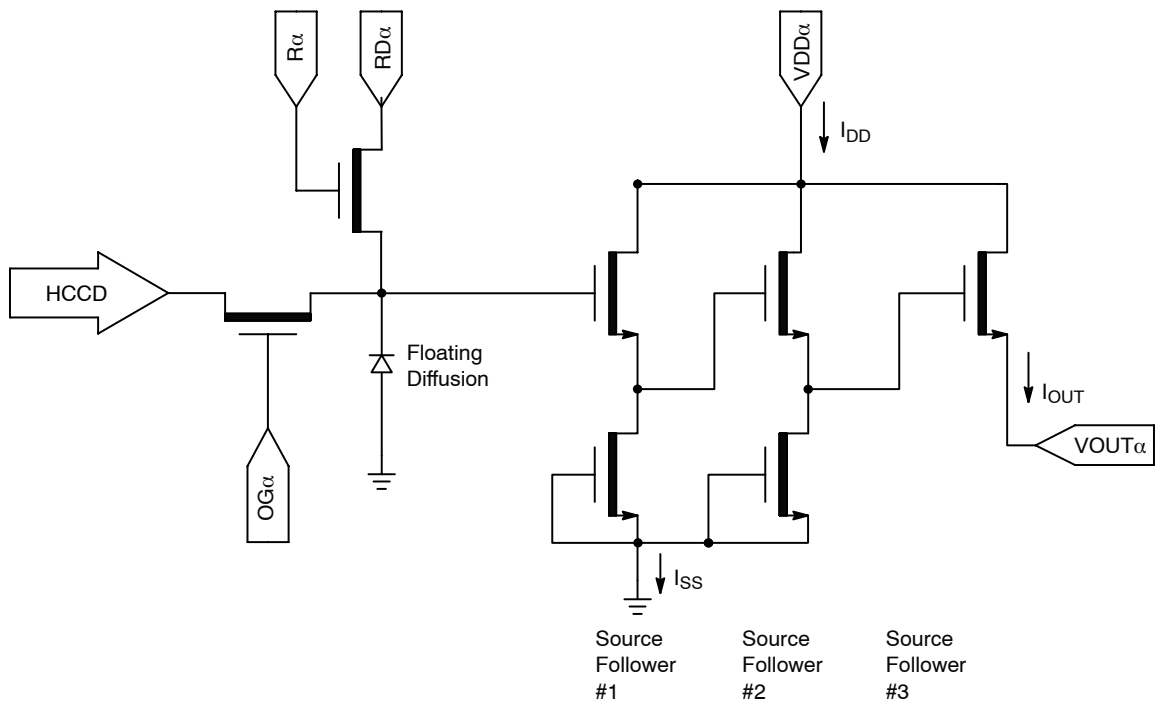

Figure 15. Output Amplifier
- The maximum DC current is for one output. $I_{dd} = I_{out} + I_{ss}$. See Figure 15.